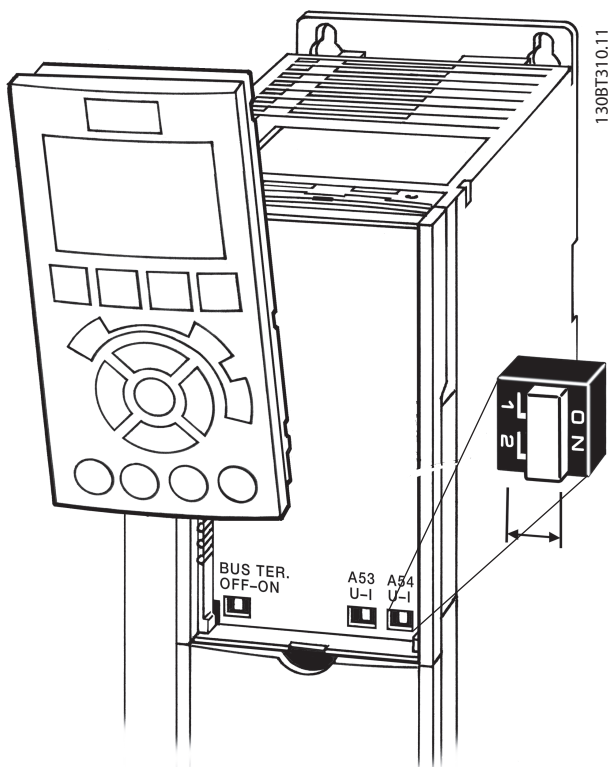

Figure 2.35 Location of Terminals 53 and 54 Switches
- The switches are accessible when the LCP has been removed (see Figure 2.35).